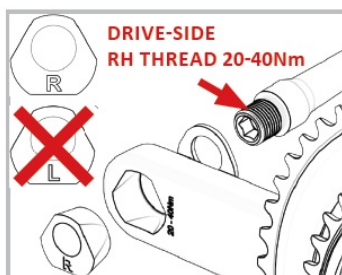

FIG. 5
- Make sure to use the correct Tri-lobe nut marked with "R" when installing the Drive-Side pedal (Fig. 5).